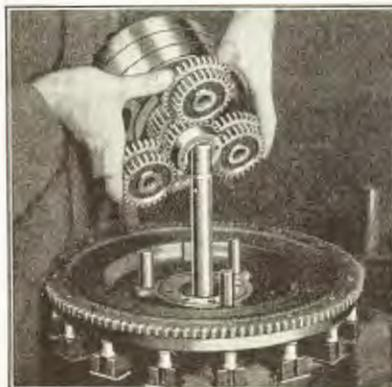

Fig. 202
- 305** After triple gears are assembled on drum assembly, place oil on triple gear and transmission gear shafts then pick up the complete drum and gear assembly (See Fig. 202) and place it over transmission shaft, positioning the triple gears on the triple gear shafts. Drums and gears should now revolve freely on shafts.